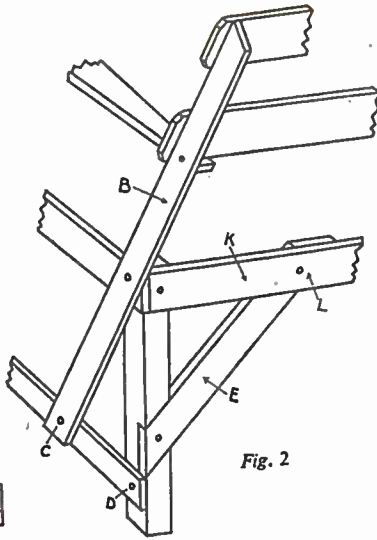

Fig. 2
The spar (B) (Fig. 2) can now be sawn. This is for the back-rest, but it also acts as a stabilising stay, keeping the legs and rails firm and free from movement.